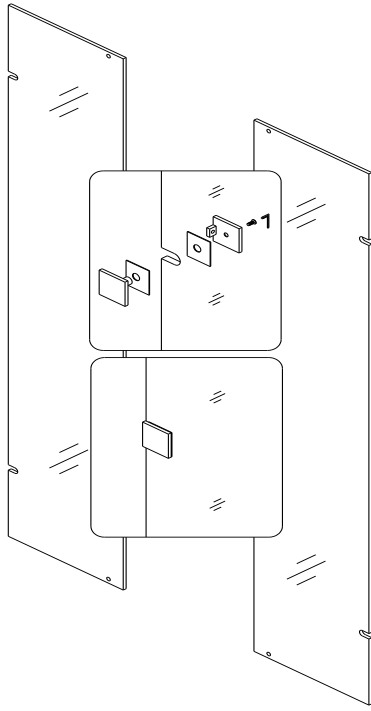

Fig. 1
1. Take out both **Stationary glass panels (01)** from the package and find the **Wall Brackets (7)** and attach them to the glass panels. Note that the parts of wall brackets with the mounting holes should face inward so that when the glass panels are put in place, mounting bolts are only visible from the inside. See fig. 1 for details.